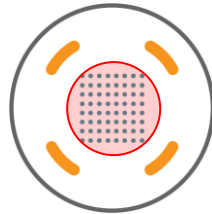

Figure 1. Droplet placement over array
1. Place a 5-10 μL drop of stock Biolaminin 332 LN solution directly from the vial over the recording electrode area of each well in the MEA plate. See **Figure 1** on for appropriate drop placement.